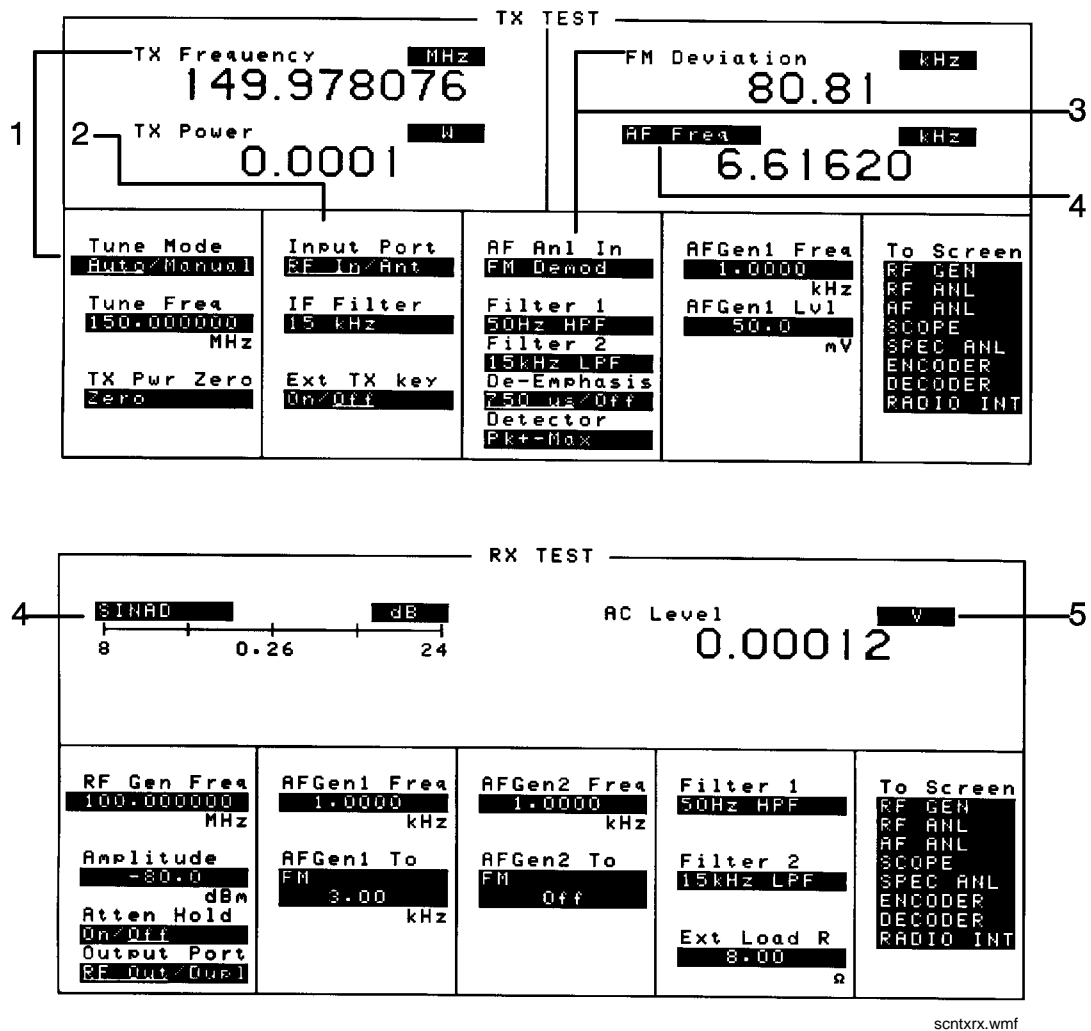

Figure 8 Where To Access Measurements
TX Frequency is displayed when **Tune Mode** is set to **Auto**. (Refer to item (1) in Figure 8 on page 57.)
TX Freq Error is displayed when **Tune Mode** is set to **Manual**. (Refer to item (1) in Figure 8 on page 57.)
TX Power is only measured and displayed here when the **Input Port** is set to **RF In** (Refer to item (2) in Figure 8 on page 57). If **Ant** (antenna) is selected, the measurement is replaced by four dashes (- - - -).
The **AF An1 In** setting determines the AF Analyzer’s input and the measurement displayed in the top-right corner of the measurement area (see Table 5). These measurements are available in the TX TEST, DUPLEX TEST, RF GENERATOR, RF ANALYZER, and AF ANALYZER screens. (Refer to item (3) in Figure 8 on page 57.)
- a. AC Level is also measured in the RX TEST screen, but always uses the AUDIO IN connector as the input. (Refer to item (5) in Figure 8 on page 57.)
Selecting the currently-displayed measurement causes the **To Screen** menu to be replaced by a list of measurement choices. Select the new choice to replace the old measurement. These measurements are available in the RX TEST, TX TEST, DUPLEX TEST, RF GENERATOR, RF ANALYZER, and AF ANALYZER screens. (Refer to item (4) in Figure 8 on page 57)
AF Power is measured in the RX TEST screen by specifying the external load resistance, **Ext Load R**, and changing the unit of measure for the **AC Level** measurement to W (Watts), mW, or dBm. (The milliwatt (mW) unit is selected by pressing SHIFT, ENTER) Refer to item (5) Figure 8 on page 57.